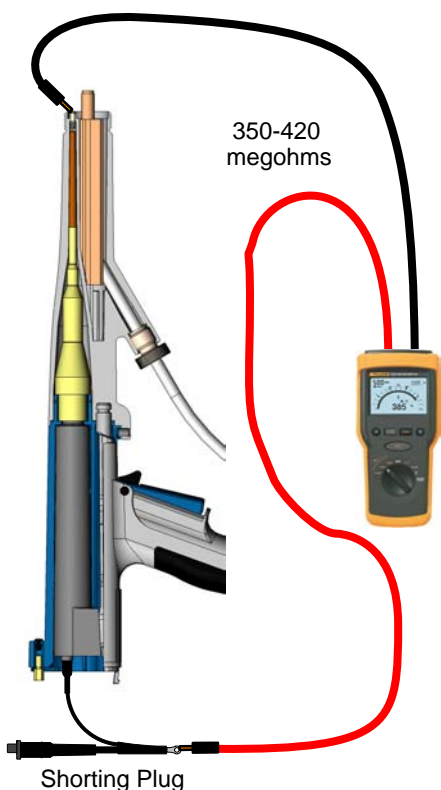

Figure 11 Test with Shorting Plug
Use the optional shorting plug shown in Figure 11 when testing resistance from the multiplier receptacle to the adapter spring plunger. Refer to *Options in Parts* for the shorting plug part number.
1. See Figure 11. Remove the end cap and nozzle from the spray gun.